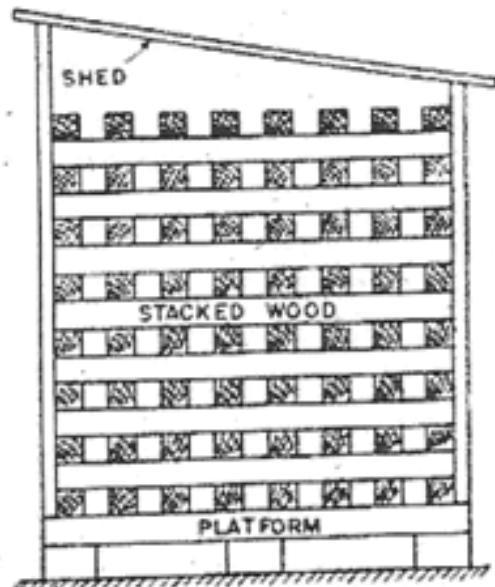

Fig 2
**4.6.1.Natural or air seasoning.** In this method the balks of timber are stacked in a shed such that they are not directly exposed to sun and rain but a free circulation about 30 to 40 cm high, and is perfectly levelled at the top. Usually a layer of cinder ash or sand is put over the levelled floor so as to prevent the effect of moisture on the wood from the bottom. A proper arrangement of drainage should always be made. The shed is erected over this platform and the timber stacked as shown in Fig. 2. They are then allowed to undergo various temperature changes by allowing to remain under this shed for a considerable long period. The stacked balks should be periodically turned upside down so as to accelerate the rate of drying. Due to the circulation of free air through the stack the excess moisture content in the wood is evaporated and the wood gets dried. This method give the best seasoned wood and is, at the same time, cheapest also, but the time taken is too much i.e., 1 to 5 years. The actual time required depends largely on the type of wood and its section. Harder wood and thicker sections take more time than softer wood and thinner sections.